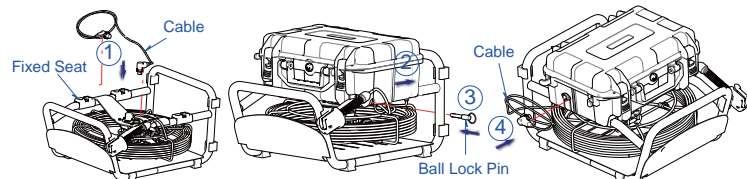

Figure 7. Install toolbox
Step 4.Connect the other end of the spring cable with the aviation socket of the toolbox and tighten the screw.(Figure 7.)